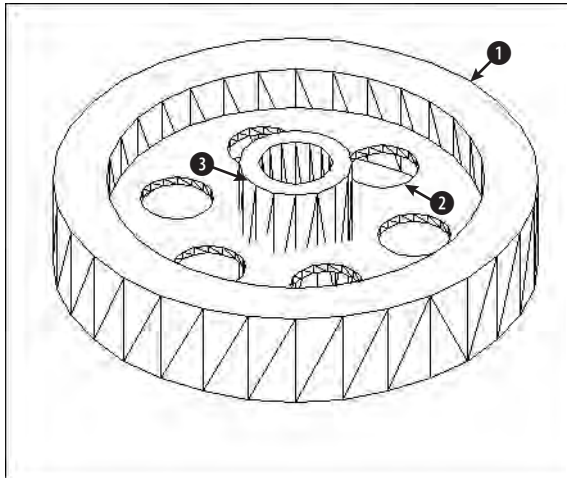

Figure 24-18: The result of three subtraction operations
7. Use the HIDE command to see the result. This enables you to check the effects of the subtraction operations. Your drawing should look like Figure 24-18.
8.  Choose Union from the Solids Editing toolbar. Select the three solids at ①, ②, and ③ in Figure 24-18 and right-click to end selection.